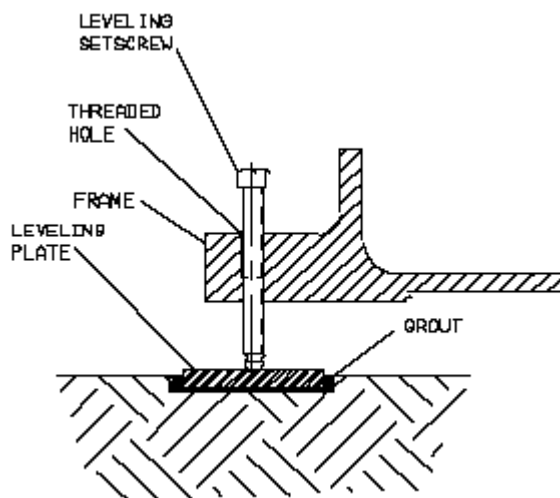

Figure 2. Leveling Setscrew
- The compressor base is drilled and tapped near each foundation bolt hole for frame leveling setscrews. Leveling setscrews are not normally supplied, but are available upon request. Greasing the leveling setscrews will aid in leveling the frame and make them easier to back off after leveling. A 1/2 inch (13.0 mm) thick steel leveling plate should be placed under each leveling screw as shown in Figure 2 to prevent the setscrews from digging into the foundation.